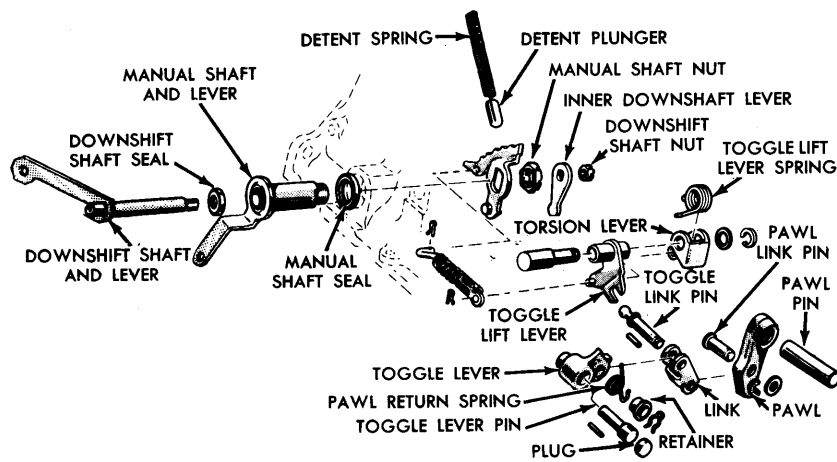

FIG. 47—Cruise-O-Matic Transmission Case Control Linkage
1. Remove the inner downshift lever shaft nut (Fig. 47). Then remove the inner downshift lever.